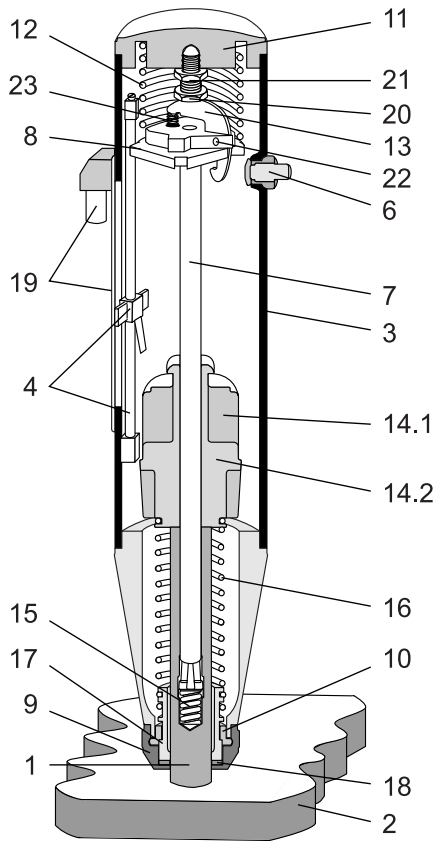

Fig. 6.2 Longitudinal section through the concrete test hammer
The items in (brackets) are illustrated in Fig. 6.2, "Longitudinal section through the concrete test hammer".
Never strip down, adjust or clean the slider and guide rod (4) (see Fig. 6.2), otherwise the slider friction may change.